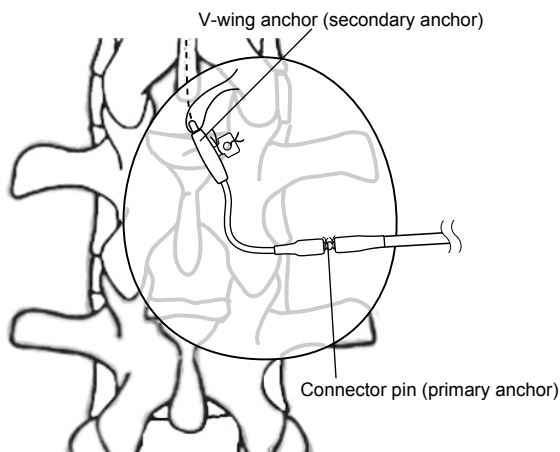

Figure 11. Anchoring the catheter.
10. Place a heavy nonabsorbable suture in each of the two grooves in the center of the connector pin and attach to the fascia (Figure 11 on page 13).